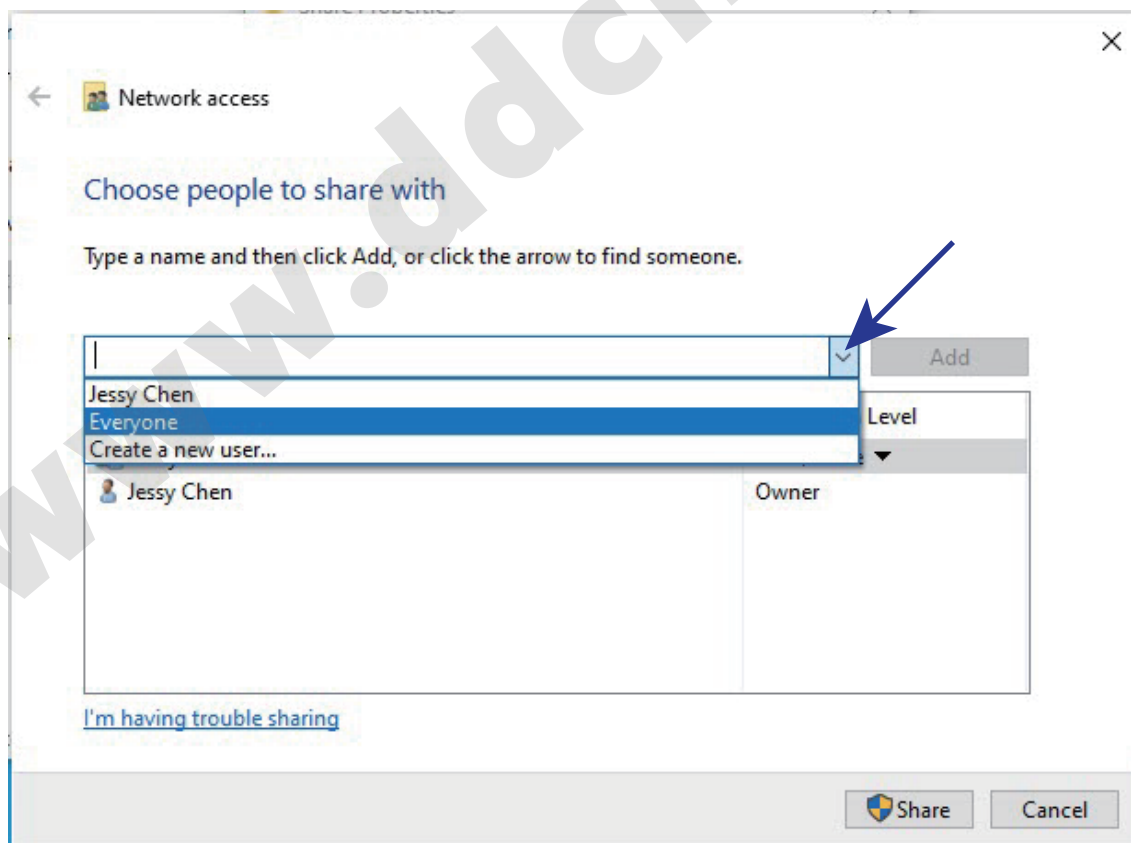

Figure 11
- 2) click “Share button”, and “Network access” windows popup as figure 11 shows;